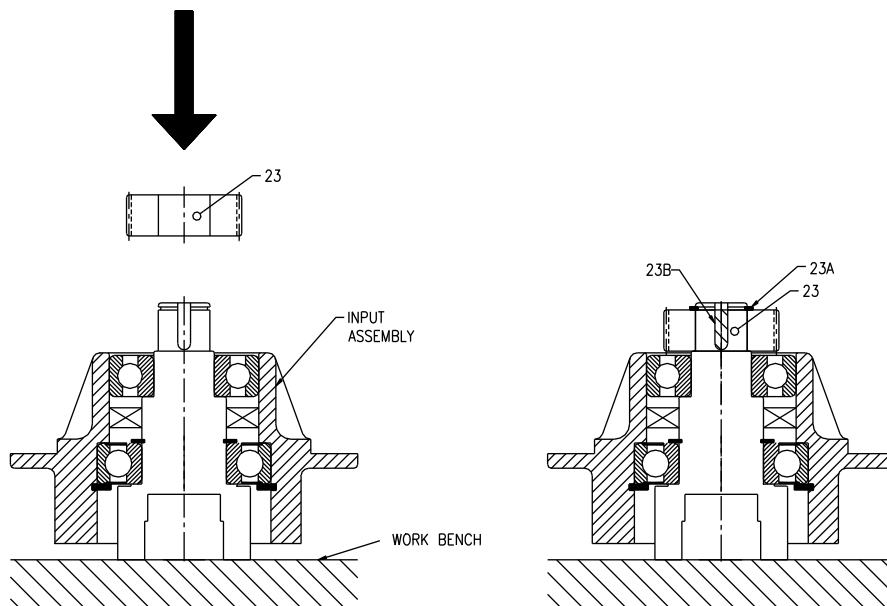

Figure 5
2. Referring to Figure 5, install the key (23B)
3. Align and install the primary pinion (23). Tap into place if necessary.